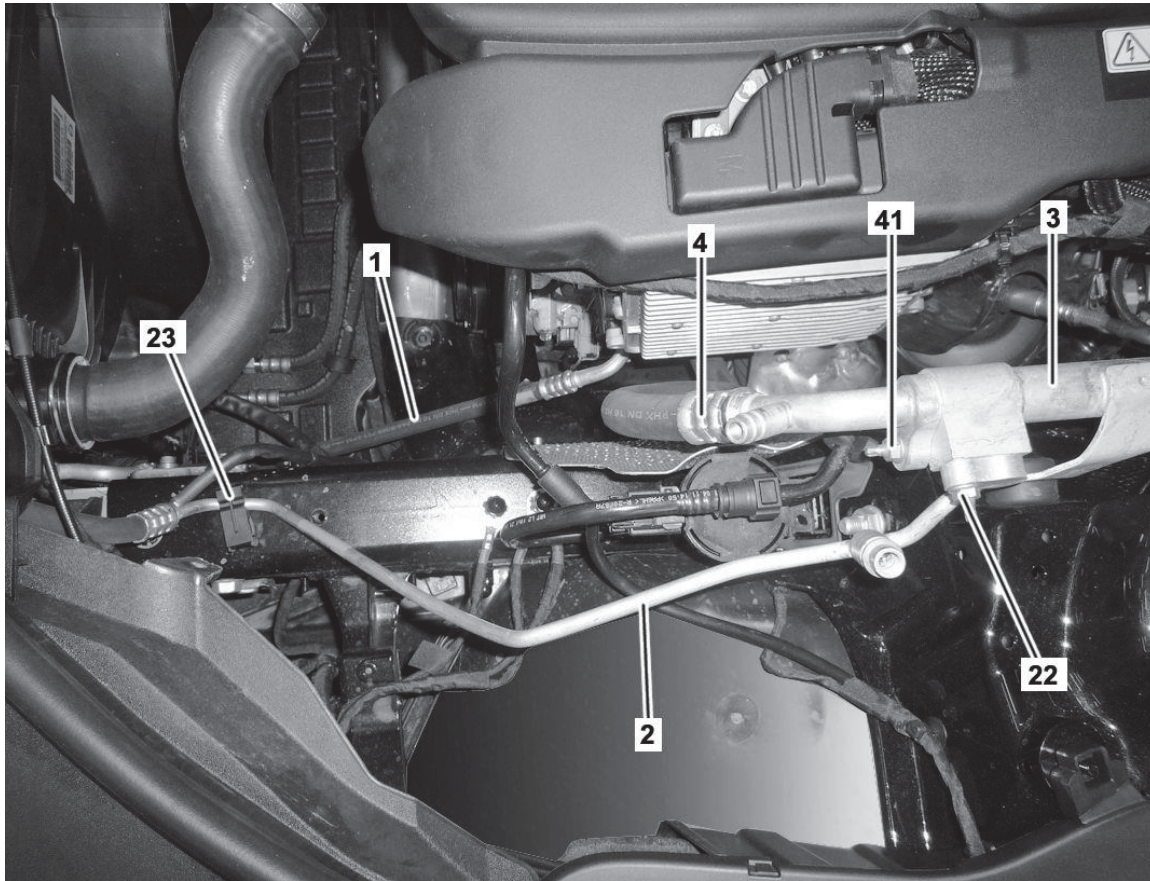

Figure 1
- Remove nut (41, Figure 1).
- Torque nut (41) to 8 Nm when installing.
- Disconnect refrigerant line (4, Figure 1) from refrigerant line (3).
- Remove nut (22, Figure 1).
- Torque nut (22) to 8 Nm when installing
- Disconnect condenser refrigerant line (2, Figure 1) from mounting clip (23).
- Disconnect condenser refrigerant line (2, Figure 1) from refrigerant line (3).
Refer also to Figures 1 and 7 for more views of condenser components and refrigerant lines.
20. Install new caps on A/C service valves of new refrigerant lines (2, 4, Figure 1).